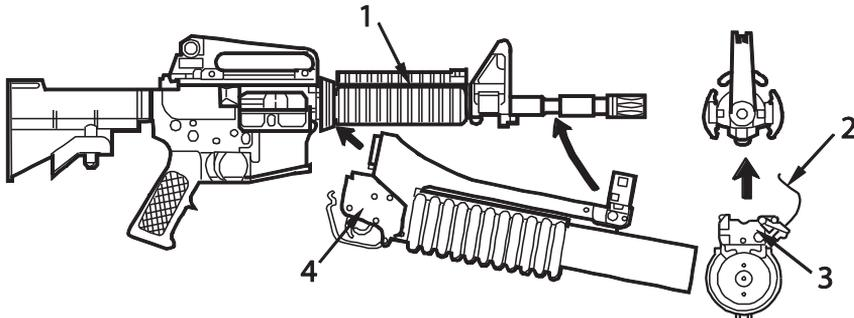

Figure 5. Carbine/QRB Installation.
3. **CARBINE:** Remove lower rail of adapter rail system from M4/M4A1 (Figure 5, Item 1). Move rear of M203 (Figure 5, Item 4) receiver into position around M4/M4A1 barrel. Fully open latch arm (Figure 5, Item 2) of QRB (Figure 5, Item 3). Rotate muzzle end of M203 towards M4/M4A1 barrel while sliding it firmly to rear.
1. Select a target at 200 meters (660ft) and fire a round. If round does not fall within 5 meters (17ft) of target as seen in Figure 5, zero weapon as follows: